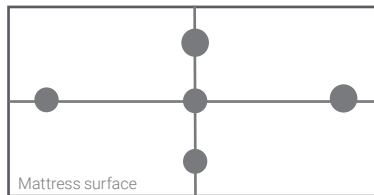

Figure 1: Mount Vernon Test points
- Standing at the side of the bed, link both hands to form a fist. Keep the elbows straight and lean forward, push your fists into the mattress at the points in **Figure 1**. If the bed base can be felt at any point, the mattress has 'bottomed out', and should be withdrawn from service immediately. Failing to observe this instruction may pose a significant risk of pressure damage to the user.